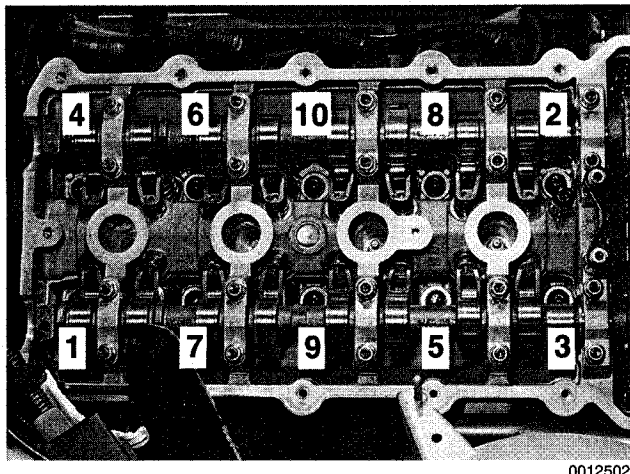

Fig. 15. Cylinder head bolt loosening sequence. Use Torx E12 socket.
32. Using Torx E12 socket, remove cylinder head bolts in the sequence indicated. See Fig. 15. Remove cylinder head and head gasket. Discard head bolts.